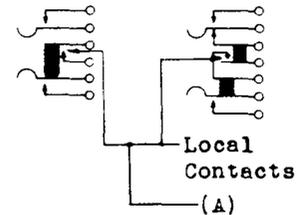

Fig. 7
(c) - Fig. 7 (A) - Local Contact Sequence Local contacts on listening spring combinations shall make or break respectively before the plunger contacts make. Gauge by eye.